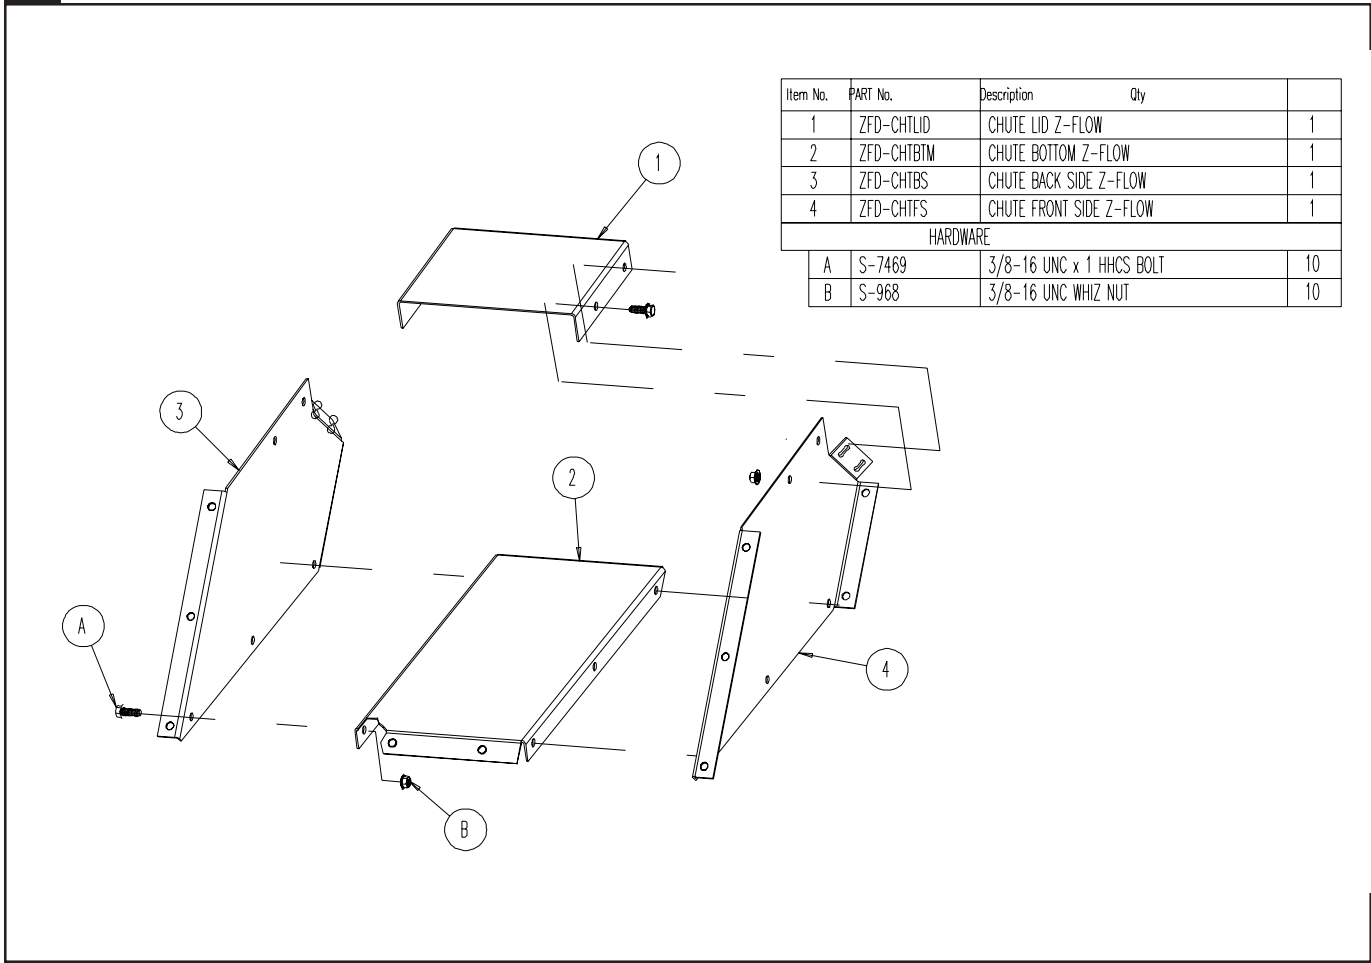

FIGURE 9
*(Refer to Figure 9 for hole alignment.)*
1. Connect the Chute Back Side (3) to the Chute Bottom (2) using 3/8" x 1" HHCS Bolts and Whiz Nuts.
2. Attach the Chute Front Side (4) to the Chute Bottom (2) using 3/8" x 1" HHCS Bolts and Whiz Nuts.
3. Attach the Chute Lid (1) to both Chute Sides (3 & 4) using 3/8" x 1" HHCS Bolts and Whiz Nuts. *Note that the Chute Lid (1) Installs to the outside of the Chute Sides.*